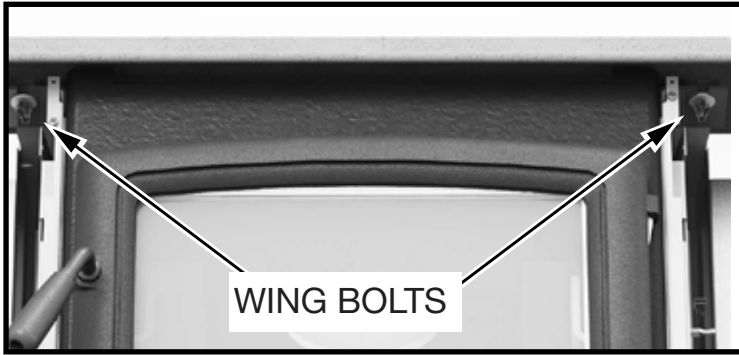

Figure 11: Wing bolts.
2. Remove the decorative top by loosening the two wing bolts located underneath. Pull the top towards you to slide it out of its brackets (Figure 11).